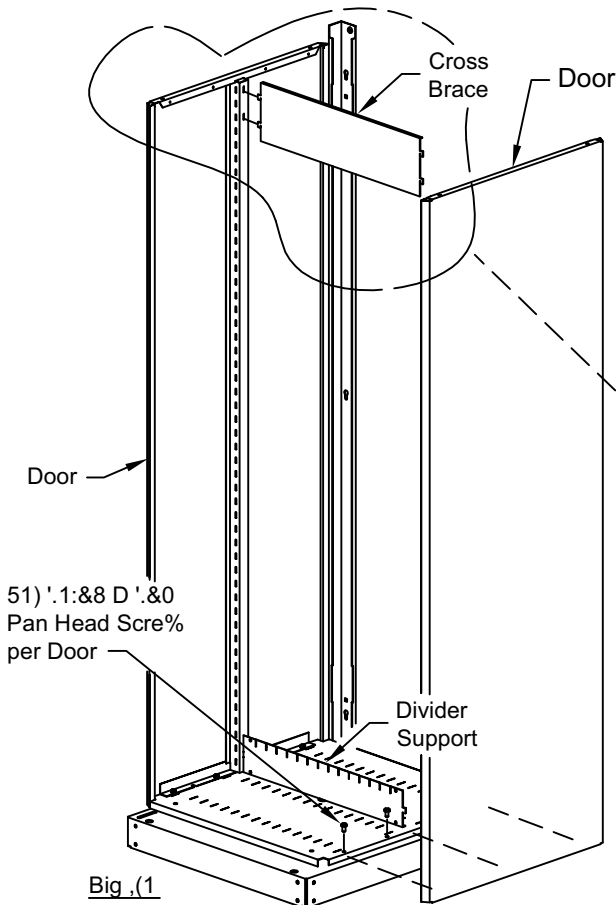

Fig 3.4
Insert the Cross Brace into the slots shown. The tabs on the cross brace should be pointing toward the floor. (Fig. 3.3) Slide the second door onto the bottom swivel pan. Verify that divider support tab and cross brace tabs are properly seated into the second door. (Fig. 3.4) Screw door into place using (4) 1/4-20x1/2" Pan Head Screws. Tighten all screws on both doors